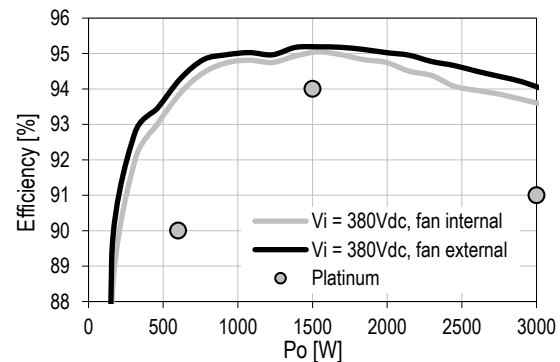

Figure 3 - DC Input Efficiency vs. load current (ratio metric loading)
**Figure 3** shows efficiency when input voltage is supplied from a high voltage DC source.